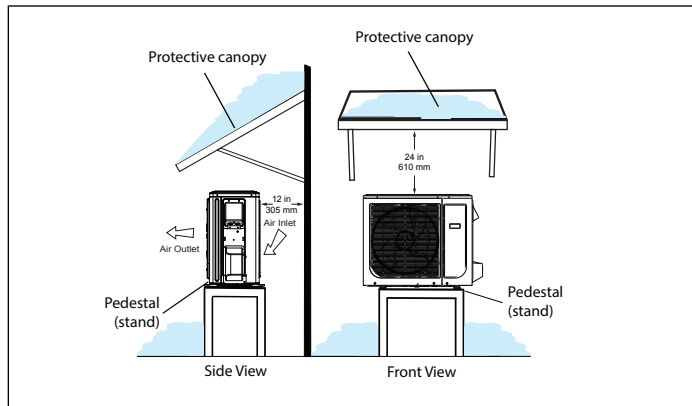
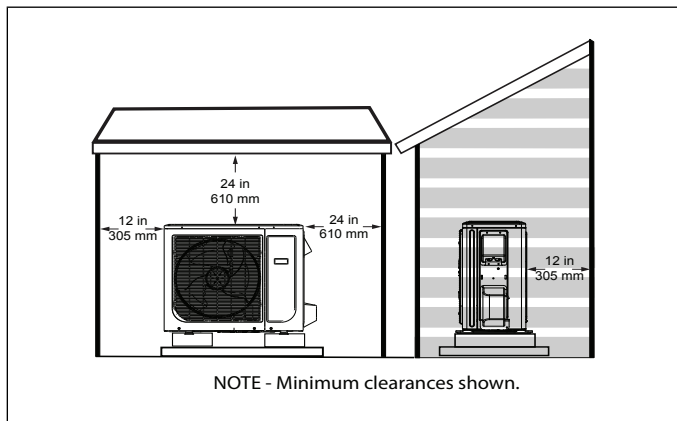

Figure 13. Outdoor Unit on Pedestal and Protective Canopy
Figure 18. Dog House-Style Shelter
- If the outdoor unit is subjected to prolong exposure to direct sunlight with temperatures over 100°F (38°C) a canopy is recommended as illustrated in "Figure 13. Outdoor Unit on Pedestal and Protective Canopy" or "Figure 18. Dog House-Style Shelter" on page 12.
- Place unit away from overhanging roof lines which would allow water or ice to drop on, or in front of, coil or into unit. Construct a canopy as illustrated in “Figure 13. Outdoor Unit on Pedestal and Protective Canopy”.
- Outdoor unit can be installed in a dog house style shelter as illustrated in “Figure 18. Dog House-Style Shelter”.